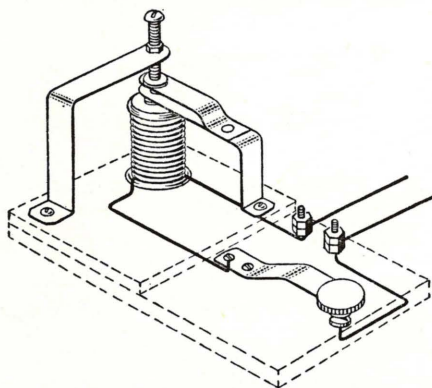

Fig. 345—Telegraph key and sounder
5. Study the next diagram, Fig. 345. Do you think you could make a telegraph set using the same plan?